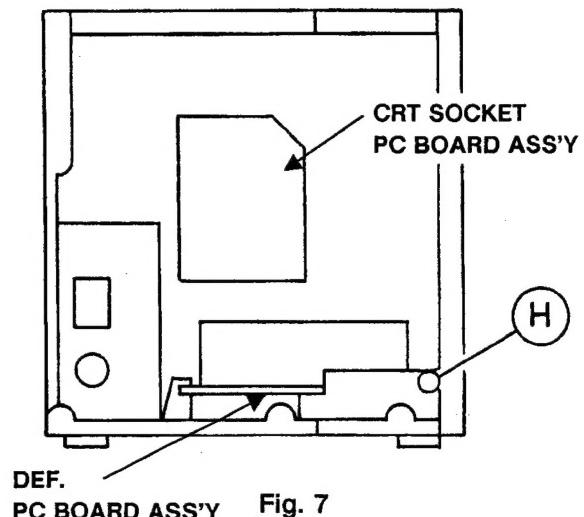

Fig. 7
- (2) Remove the screw **H** shown in Fig. 7.
- (3) Remove the CRT SOCKET PC BOARD, wires of the DEF. YOKE and the HVT and other wires as well.
- (4) Pull the DEF. PC BOARD ASSEMBLY toward you and remove it. (When replacing the DEF. PC BOARD ASSEMBLY to its original position, confirm that it is connected to the connector of the CONTROL PC BOARD ASSEMBLY.)